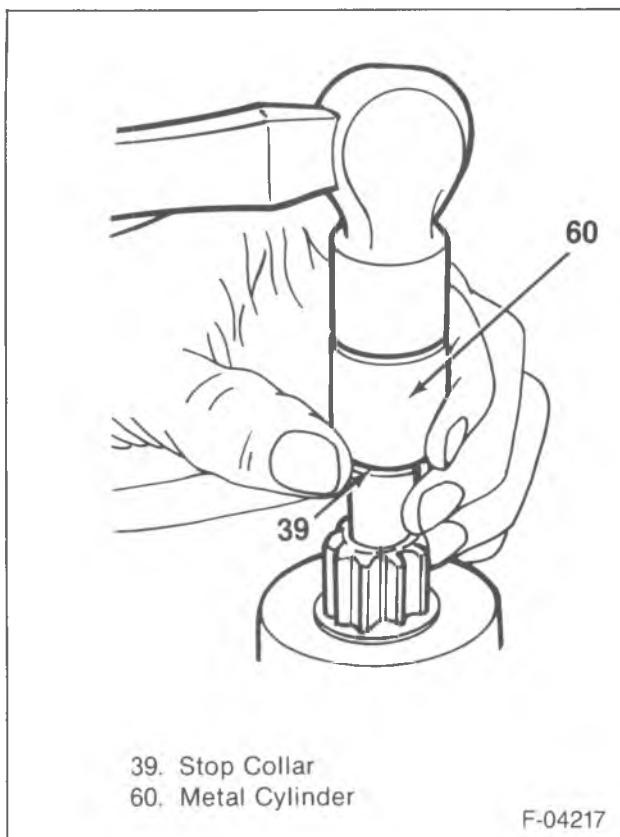

Figure 42—Driving the Stop Collar Off the Pinion Stop Ring
8. Gear and drive from the drive housing assembly (82).
9. Thrust collar (81) from the drive shaft.
- Slide a deep socket over the shaft and tap the socket to drive the stop collar (39) off the pinion stop ring (37) (figure 42).